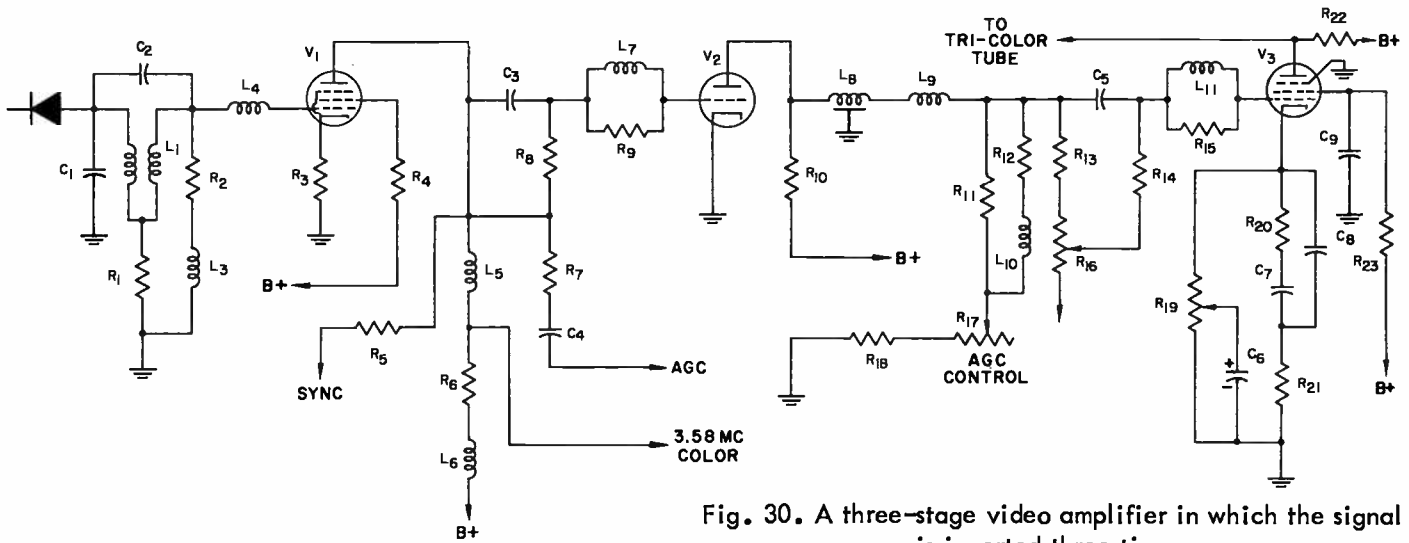

Fig. 30. A three-stage video amplifier in which the signal is inverted three times.
A three-stage video amplifier in which the picture phase is inverted is shown in Fig. 30. The circuit is straightforward and you should have no difficulty tracing the various signals through it.
Another three-stage video amplifier is shown in Fig. 31. This amplifier is quite different from the one shown in Fig. 30. In this amplifier, the picture phase is inverted in only one stage; in the other two stages we have the same picture phase in the output as in the input. Let's examine the circuit in detail.
- (ae) How many times is the picture phase inverted in the amplifier shown in Fig. 30?